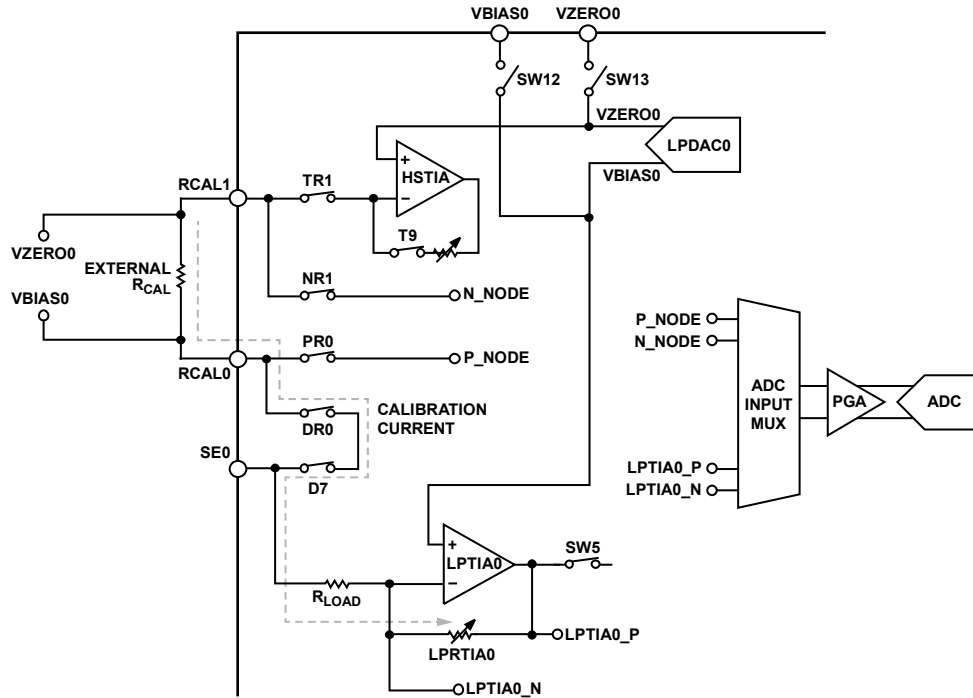

Figure 31. HSTIA, LPTIA0, and Switch Matrix Settings for LPRTIA0 Calibration
- The ADC LPTIAx\_P input channel and LPTIAx\_N input channel are measured for each LPTIA (see Figure 31).